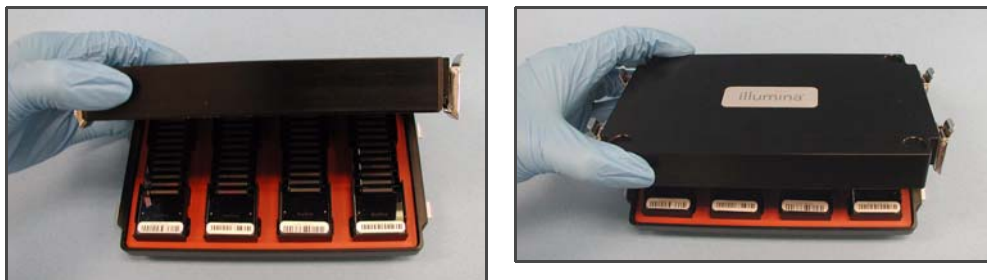

Figure 27 Secure Lid
1. Close and lock the BeadChip Hyb Chamber lid (Figure 27).